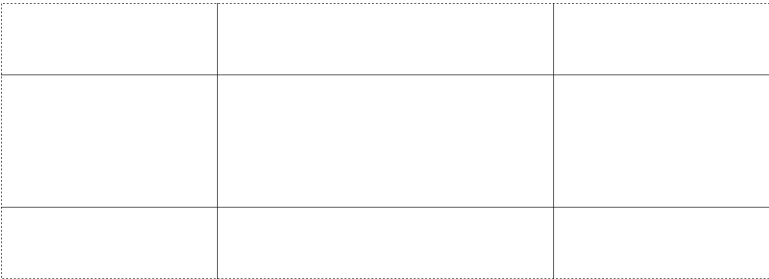

Figure 3 Adjustment Screen #2
5. Calibration Screen 2 will be displayed (Figure 3).